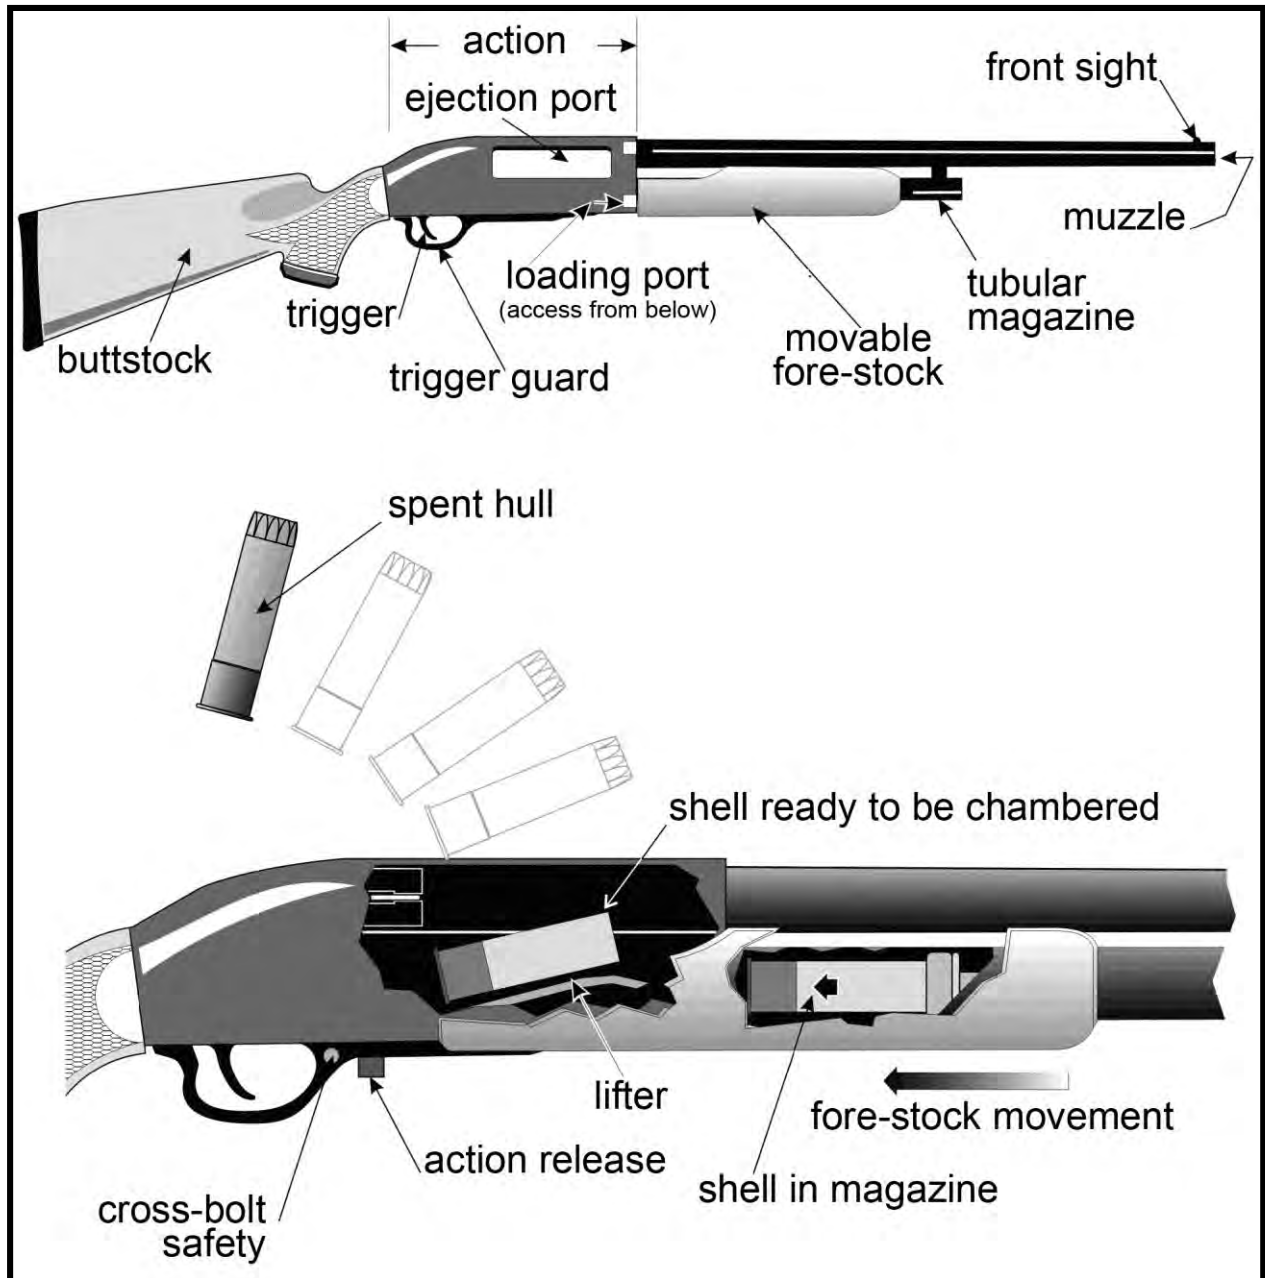

Figure 54. Pump Action
- b. The **safety mechanism** on most modern pump actions is either a slide/tang or cross-bolt/button safety located in the action area. The button is usually at the front or rear of the trigger guard. The slide/tang is frequently on top of the action. The action release is also found at the trigger guard (Figure 54).